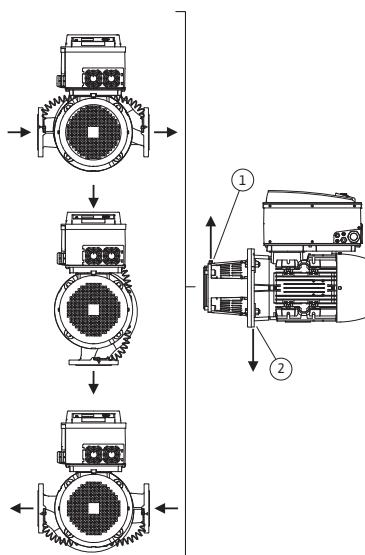
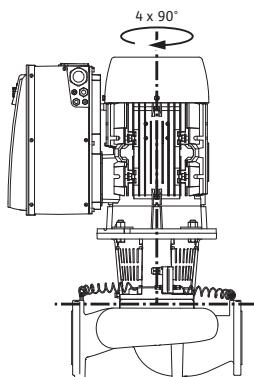

Fig. 18: Permitted installation positions with horizontal motor shaft
Fig. 19: Permitted installation positions with vertical motor shaft
The permitted installation positions with horizontal motor shaft and electronic module facing up (0°) are shown in Fig. 18. The permissible installation positions with electronic module mounted on the side ($+/-90^\circ$) are not shown. Any installation position is allowed except for “electronic module facing down” (-180°). The venting of the pump is only ensured when the air vent valve is pointing upwards (Fig. 18, Item 1).
Only in this position (0°) can condensate be directed away via an existing drilled hole, pump lantern and motor (Fig. 18, Item 2).
The permitted installation positions with vertical motor shaft are shown in Fig. 19. All installation positions except for “motor facing down” are allowed.
- The air vent valve at the lantern (Fig. 6, Item 1.31) must always face upwards if the motor shaft is horizontal (Fig. 6a and Fig. 6b). If the motor shaft is vertical, any orientation is permitted. See also Fig. 18: "Permitted installation positions with horizontal motor shaft" on page 86 and Fig. 19: "Permitted installation positions with vertical motor shaft" on page 86.
- With a horizontal motor shaft, the condensate hole must be positioned towards the bottom (Fig. 18, Item 2). If necessary, the motor must be turned accordingly.